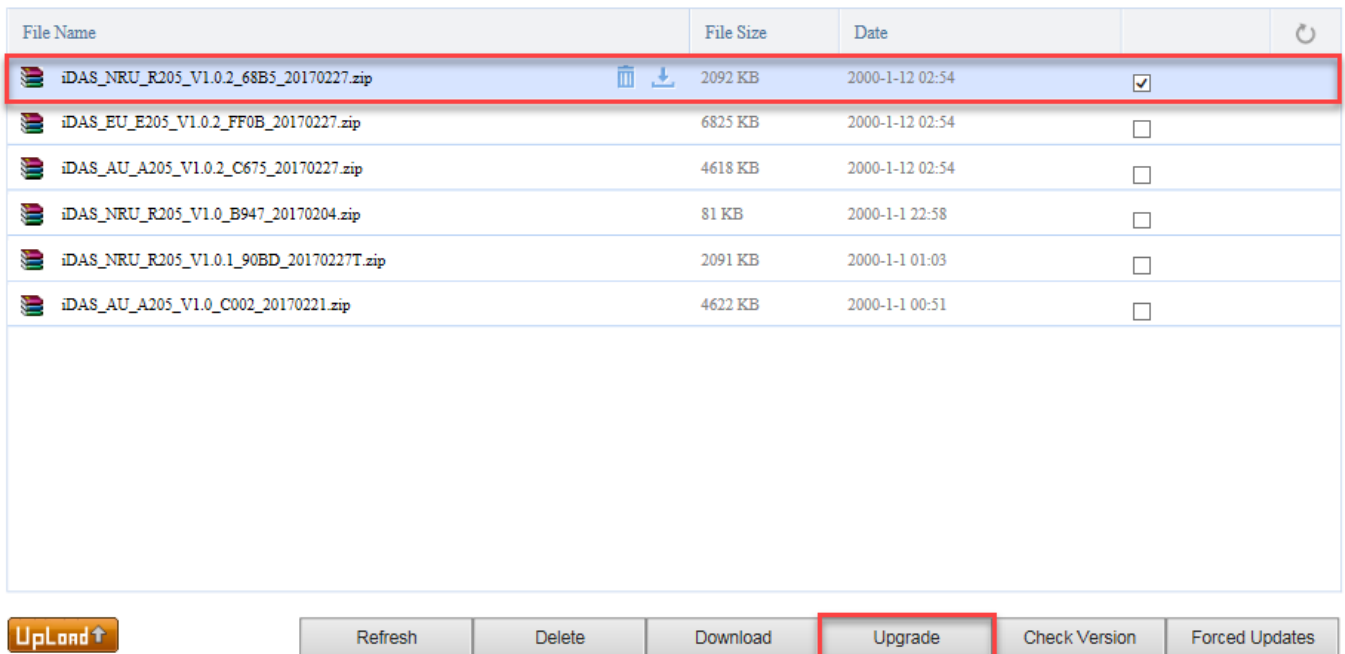

Figure 9-4 Software Upgrade 3
- After the software is uploaded successfully, select the file that was just uploaded and click the **Upgrade** button to complete the software upgrade, as shown in Figure 9-4 for an NPRU upgrade.